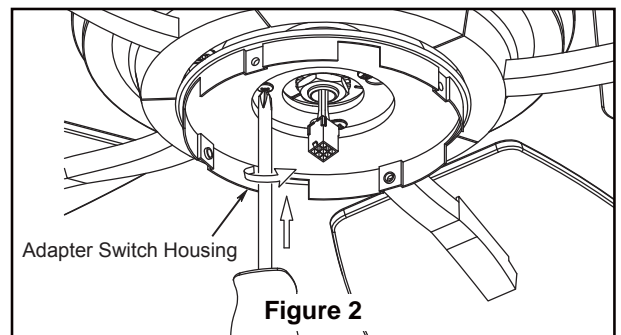

Figure 2
2. Remove one of the three screws in the support bracket. Slightly loosen the remaining two screws. Assemble the adapter-switch housing to the housing support bracket using the two key slots in the adapter switch housing. Replace the third screw and securely tighten all three screws. (Figure 2)